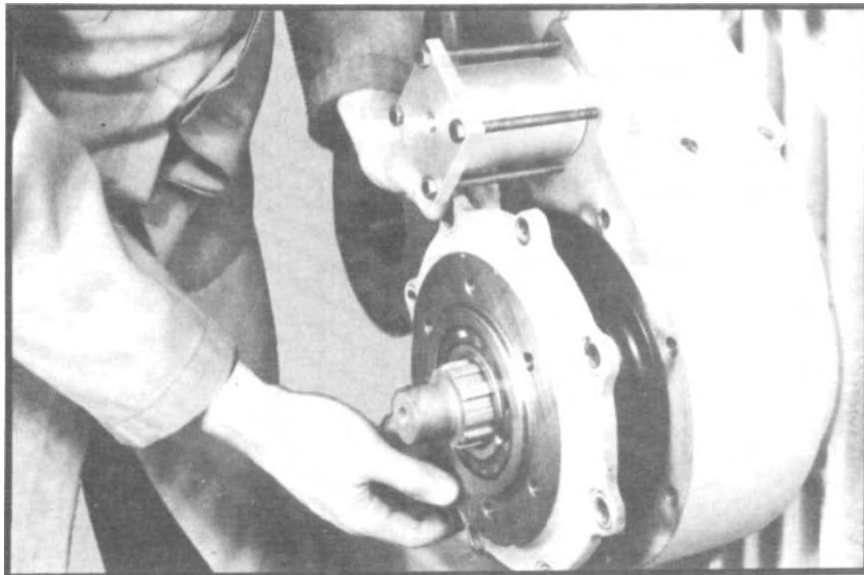

Fig. 9
4. Remove eight capscrews from lockout and bearing carrier and tap carrier to loosen. (See fig. 9.)